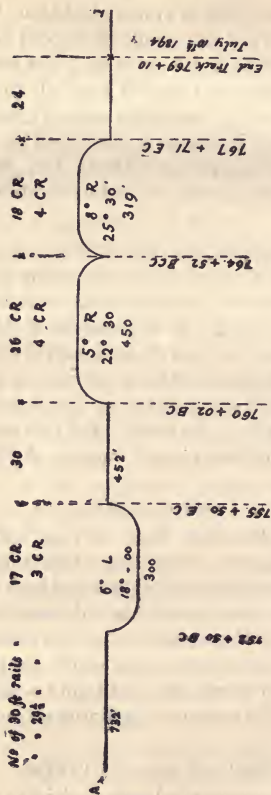

FIG. 30.
33. When laying track where curves are frequent, the writer uses blue print diagrams, as shown in Fig. 30, to avoid confusion in forwarding material at the front and laying the track.